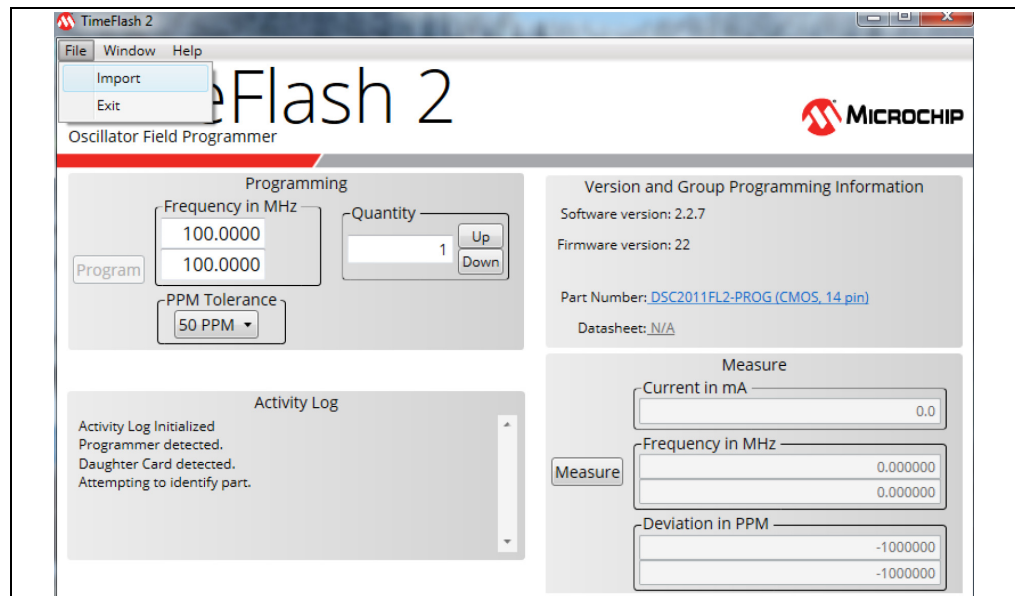

FIGURE 3-14: Importing a Configuration File.
6. After saving the configuration file to the computer, open the TimeFlash 2 GUI. Then click **File** and select **Import** to import the configuration file (Figure 3-14).